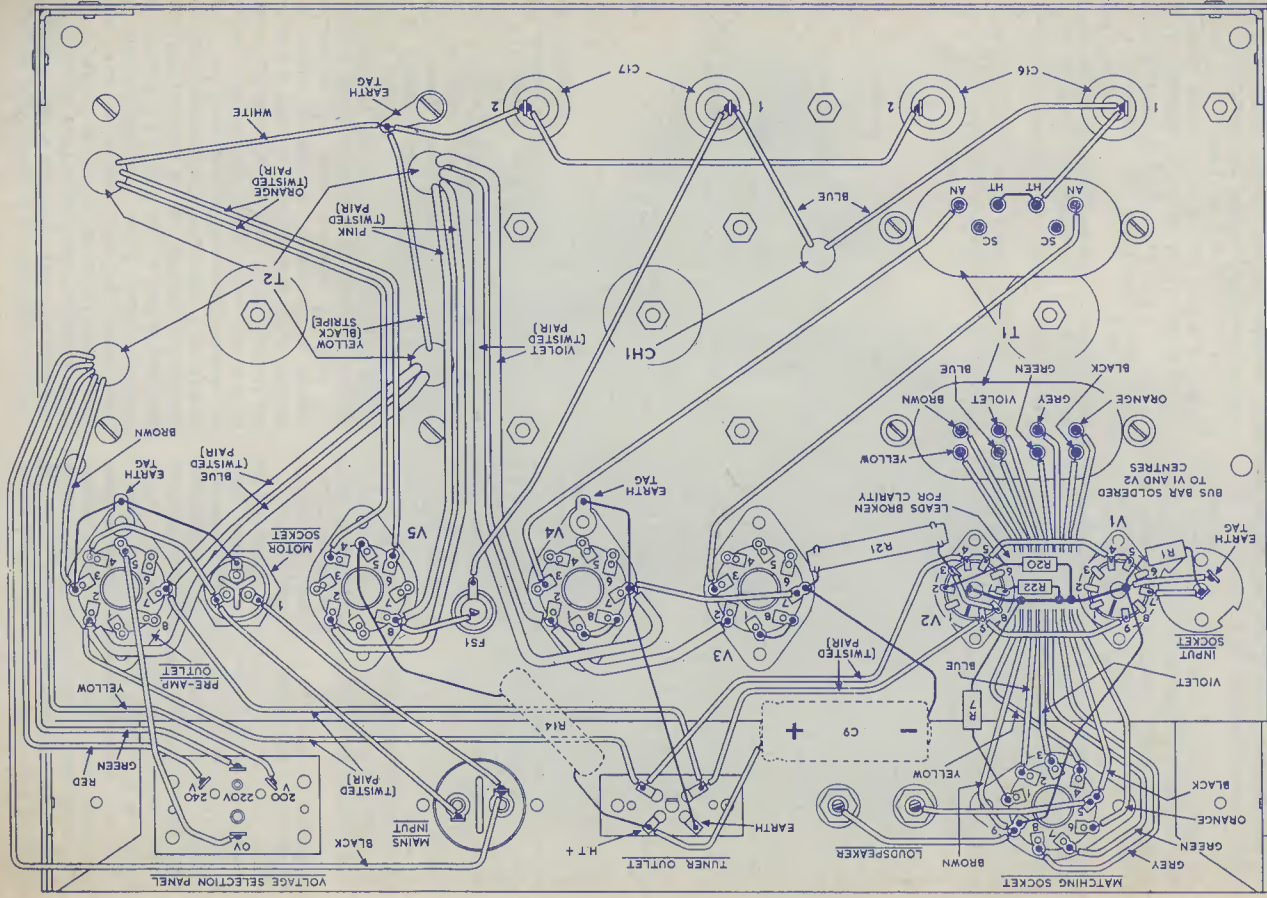

Fig. 4. The layout of the components and wiring fitted in the first wiring stage
In the prototype three switches were fitted, two of these being S₁ and S₂. The third caused different values of capacity to be switched into the C₁ position, thereby providing an adjustment of a.f. oscillator frequency. In order to provide the necessary miniaturisation these switches were home-constructed, the fixed contacts consisting of ordinary needlework pins fitted to the Bakelite front panel with the aid of Araldite. Wipers, made of springy metal, then made contact to the pin heads on the front side of the panel. The rear ends of the pins were snapped off, as shown in Fig. 4, components being soldered to the remaining parts of the pins.
The construction of the Cooper-Smith 20 watt amplifier is fully described in the step-by-step instructions which follow. These instructions may be followed with the aid of the wiring diagrams given in Figs. 4 and 6. In both these diagrams the front apron of the chassis is shown laid flat in order that connections to the sockets and panels mounted on it may be indicated more clearly.
1. Fit the three long 2BA bolts (supplied) to the chassis (heads above chassis). Make certain that the bolts are securely tightened, as the heads and nuts are covered in later stages of assembly. The bolts take up the positions circled in Fig. 4.
3. Fit the valveholders and pre-amplifier outlet socket to the chassis, from the inside, ensuring correct orientation and fitting chassis solder tags as shown in Fig. 4. Ensure that good contact is made to chassis by the tags by scraping, or cleaning, the chassis immediately underneath the appropriate valveholder or socket metalwork.
pins 4 and 5 of V_1 . Similarly connect together pins 4 and 5 of V_2 . Using twisted wiring and sleeving, connect together pin 9 of V_1 , pin 9 of V_2 , the lower left hand tag of the tuner outlet panel (see Fig. 4) and pin 7 of the pre-amplifier outlet socket; connect together pin 4 of V_1 and pin 5 of V_2 ; connect together pin 4 of V_2 , the lower right hand tag of the tuner outlet panel (see Fig. 4) and pin 2 of the pre-amplifier outlet socket. In common with other heater leads, the pairs of wires between the points just connected are shown as separate leads in Fig. 4 for reasons of clarity; in practice they should be twisted, including the pair between V_1 and V_2 . Solder all the connections just made except for those at pins 2 and 7 of the pre-amplifier outlet socket.
13. Connect the yellow (black stripe) and white leads from T_2 to the chassis tag indicated in Fig. 4.
14. Connect the brown lead from T_2 to pin 3 of the pre-amplifier outlet socket. Without sleeving, connect pin 3 of the pre-amplifier outlet socket to the adjacent chassis tag (indicated in Fig. 4). Solder at pin 3.
15. Connect the black lead from T_2 to the left hand tag (see Fig. 4) of the mains input socket. Connect the left hand tag of the mains input socket to tag 1 of the motor socket. Solder all connections.
18. Connect tag 2 of C_{16} to tag 2 of C_{17} , and tag 2 of C_{17} to the adjacent chassis tag. (See Fig. 4.) Solder all connections except tag 2 of C_{16} .
20. Connect together tag 1 of C_{17} and the "outer" tag (see Fig. 4) of fuseholder FS_1 . Solder both connections.
22. Connect the right hand tag (see Fig. 4) of the mains input socket to the upper right hand tag (see Fig. 4) of the motor socket, continuing to pin 4 of the pre-amplifier outlet socket. Solder all connections.
23. Connect the lower (earth) tag of the motor socket to the adjacent chassis tag as indicated in Fig. 4. Solder both connections.
24. Connect the "centre" tag (see Fig. 4) of fuseholder FS_1 to pin 8 of V_5 . Solder both connections.
25. Using unsleeved wire connect pin 7 of V_4 to the upper left hand tag of the tuner outlet panel and to the adjacent chassis tag, as indicated in Fig. 4. Solder all connections.
27. Reverting to sleeved wire, connect pin 3 of V_4 to the right hand (see Fig. 4) "AN" tag of T_1 . Connect pin 3 of V_3 to the left hand "AN" tag of T_1 . Solder all connections.
29. Connect tag 5 of the matching socket to the left hand (see Fig. 4) loudspeaker terminal. Connect tag 9 of the matching socket to the right hand loudspeaker terminal. Solder all connections except that at tag 9.
33. Using sleeving, connect the earthy, outer, tag (see Fig. 4) of the input socket to V_1 spigot, or to the busbar wire adjacent to the spigot, if the latter is crowded. Solder at the earth tag.
34. Connect the centre tag (see Fig. 4) of the input socket to pin 7 of V_1 . Connect R_1 ($1M\Omega$) between the centre tag of the input socket and V_1 spigot, or to the busbar wire adjacent to the spigot, if the latter is crowded. Solder at pin 7 of V_1 and at the centre tag, and solder all connections, including the busbar, at V_1 spigot.